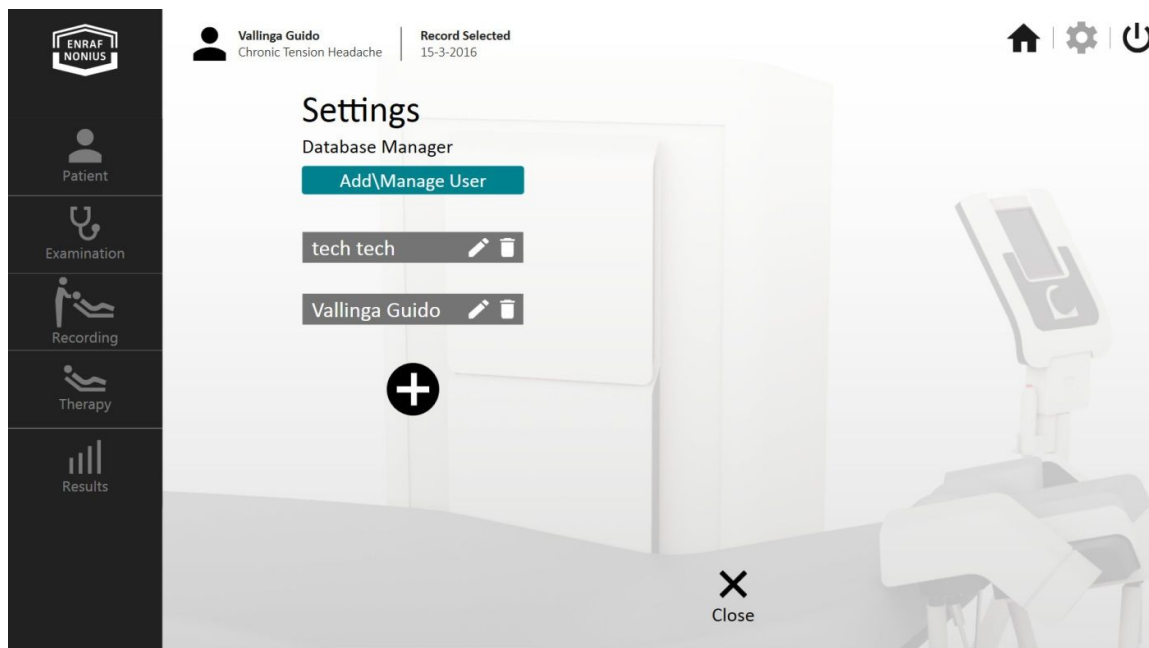

fig. 98
- Select **“Add \ Manage User”** of the Database Manager (fig. 98) and add, delete, or edit a user.